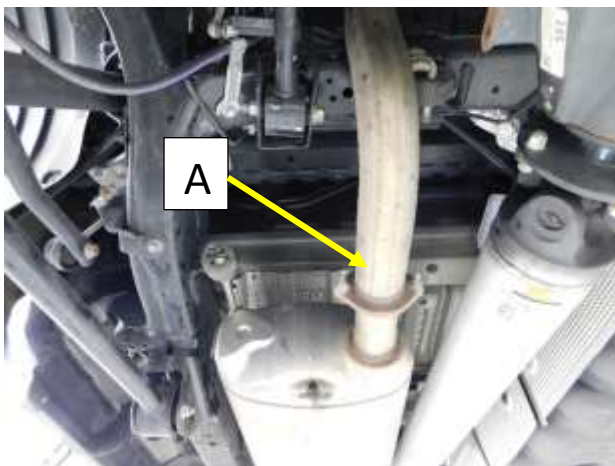

Figure 1
2. Remove the M8 bolts at the flange that connects the tailpipe to the muffler **(A)**. **Fig.1**